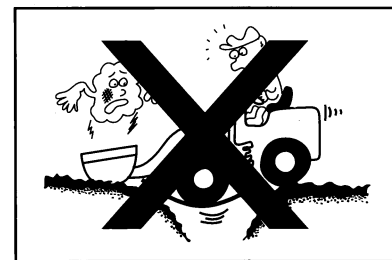

Figure1-59
- Do not work alone in the dangerous places. Investigate the road conditions, intensity of bridge and the topography of the worksite in advance. (Figure 1-59)